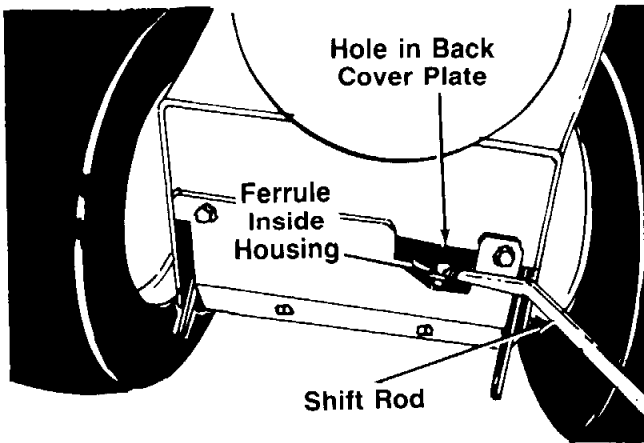

FIGURE 3.
2. Place the threaded end of shift rod into the hole in the back cover. See figure 3. Thread rod into the ferrule until ferrule is about half-way down the threaded end of the rod. Adjustment of shift rod will be made in step 16.